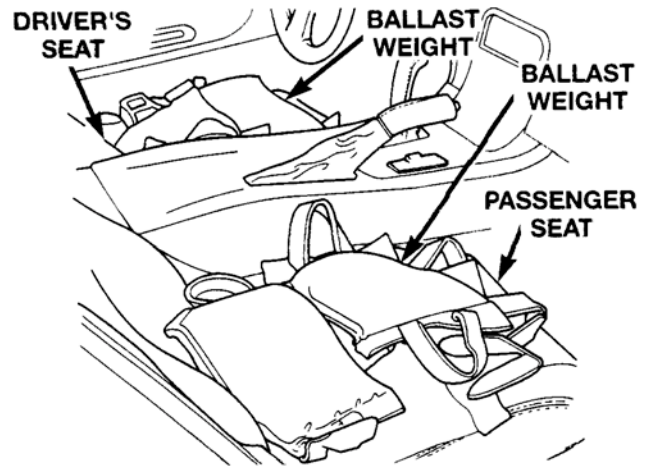

Figure 64
2. Add ballast weight as required to the passenger compartment of the vehicle to lower the front of the vehicle to the specified design height (Figure 64).
The approximate total weight needed to lower the vehicle to its design height is 400 lbs. (180 Kg). The weight distribution in the vehicle is about 330 lbs. (150 Kg) in the passenger compartment (165 lbs. (75 Kg) per seat) and 70 lbs. (30 Kg) in the trunk (Figure 64 and 65).